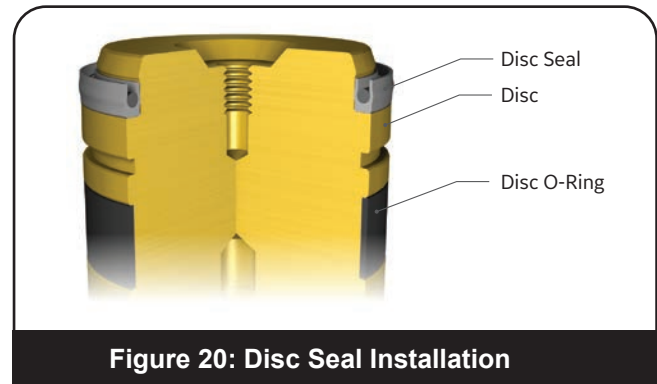

Figure 20: Disc Seal Installation
- For Teflon seals make sure of the integrity of the Teflon seal and seal spring. Install Disc Seal on Disc outside diameter on the opposite end of the disc seat as shown in Figure 20.